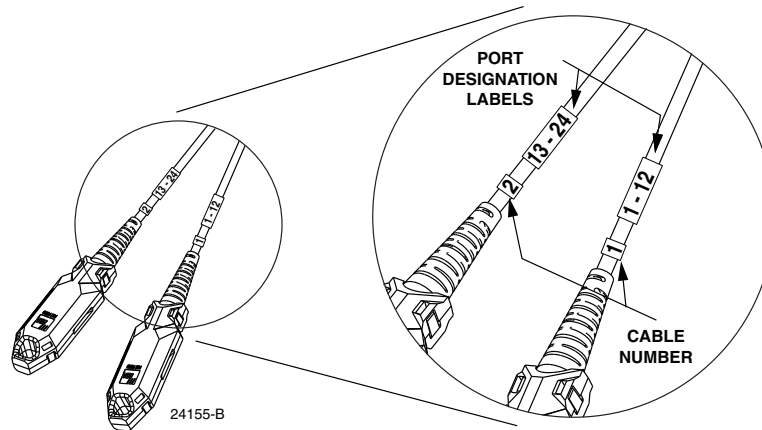

Figure 50. Cable Number and Optical Port Designation Labels
- c. Connect the microcable MPO connector to the appropriate equipment MPO connector. Labels are attached to each microcable, as shown in Figure 50, that identify the cable number and the range of optical ports associated with the MPO connector.